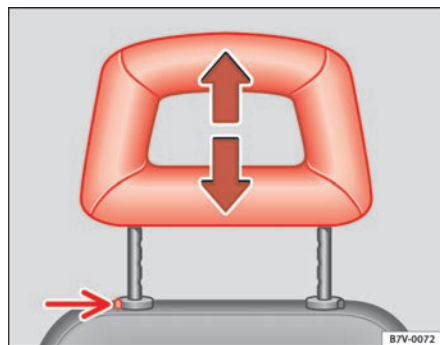

Fig. 85 Adjusting and removing the head restraints
- Push the head restraint up (in the direction of the arrow) or push it down with the button pressed ⇒ **fig. 85** (arrow). Correct setting ⇒ page 123.
- Press the button ⇒ **fig. 85** -arrow-.
- Press and hold button ⇒ **fig. 85** (arrow) and push the head restraint down **as far as it will go**.